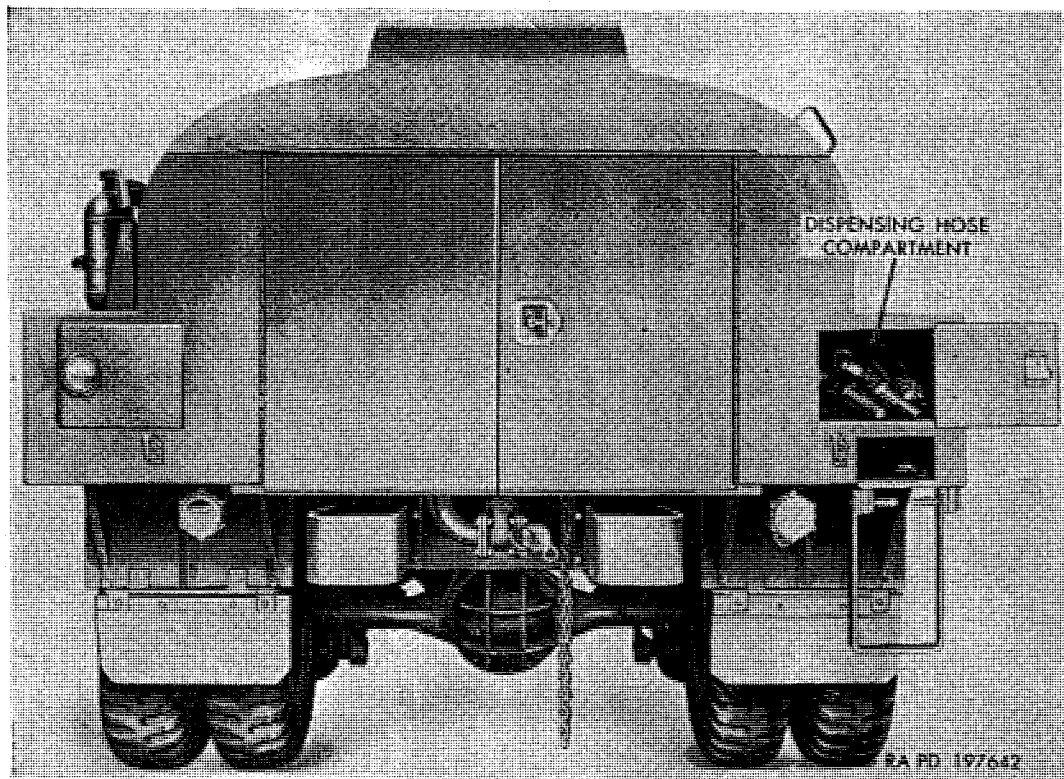

Figure 62. Gasoline tank body rear stowage compartments.
c. *Gasoline Tank Operating Equipment.* Dispensing hose, nozzles, and gage stick are stowed in rear compartment (fig. 62).
Caution: When operating and driving the gasoline tank truck (fig. 62), the static chain at the rear must be in position at all times. During dispensing or loading gasoline, smoking near the truck (at least 50 feet) is forbidden. Use of open flame, electrically operated equipment, or tools which may cause static sparks must not be used on or near the truck. Dispensing equipment must be thoroughly drained and ventilated before stowage in rear compartment. All spillage in rear compartment and at manhole covers must be wiped thoroughly dry immediately after use. Personnel must not enter a compartment unless compartment is gas-free and precautions used as explained in paragraph 351.